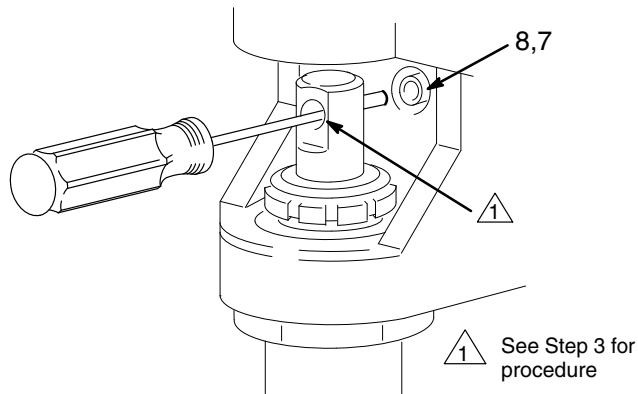

Fig. 19
2. Remove the connecting rod (9). Inspect it for wear or damage. Replace the rod, if necessary.
3. Turn the displacement rod so the pin hole faces straight back. Insert a hex key wrench through the hole and unscrew the screw (8) located in the back of the drive housing. See Fig. 19.